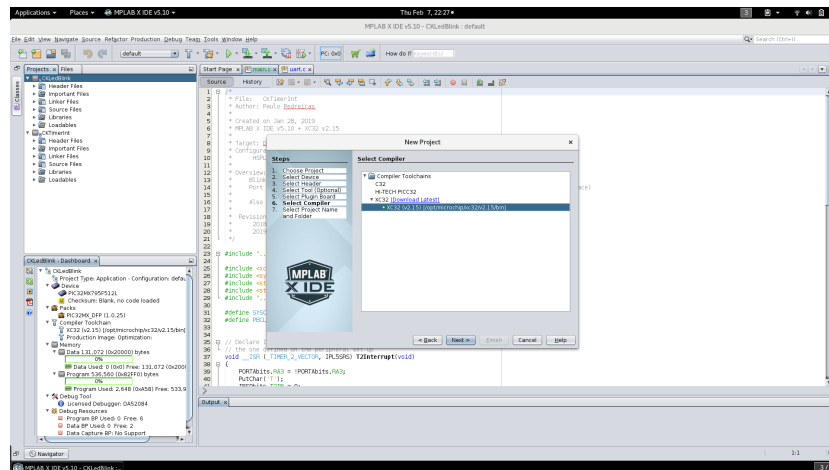

Figure 4: Select the compiler
6. Select the XC32 compiler and do “Next” (Figure 4)